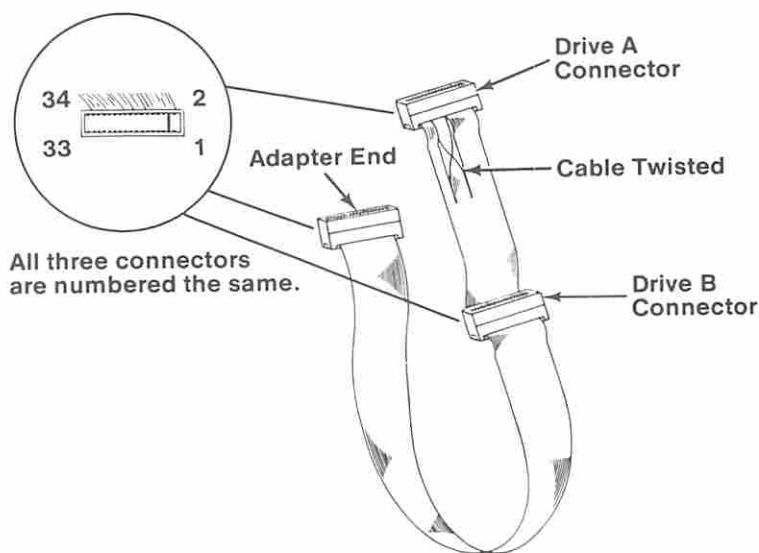

Figure 12. Signal Cable
- Refer to Figure 12 for the test points on the signal cable.